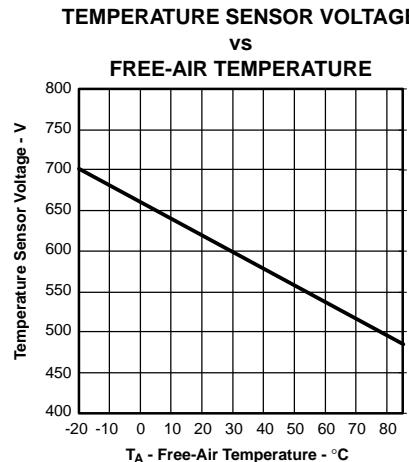

Figure 2-7. Temperature Sensor Voltage vs Free-Air Temperature
2.2.5 Temperature Sensor (see Figure 2-7)